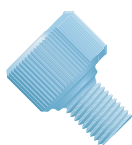
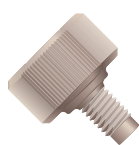

Figure 1
Figure 2
U.S. Customary System Two numbers are used to describe a thread size. The first number indicates the diameter of the threaded portion of the nut. Thread diameter numbers range from gauge 1 (0.073") to gauge 12 (0.216"). Beyond 0.216" the thread diameter is given as the actual diameter in fractions of an inch. The second number indicates the threads-per-inch count. Thus, a 1/4-28 nut (Figure 1) has a 1/4" (0.250") diameter thread barrel and 28 threads-per-inch. A 10-32 male nut (Figure 2) has a gauge 10 (0.190") thread barrel with 32 threads-per-inch.